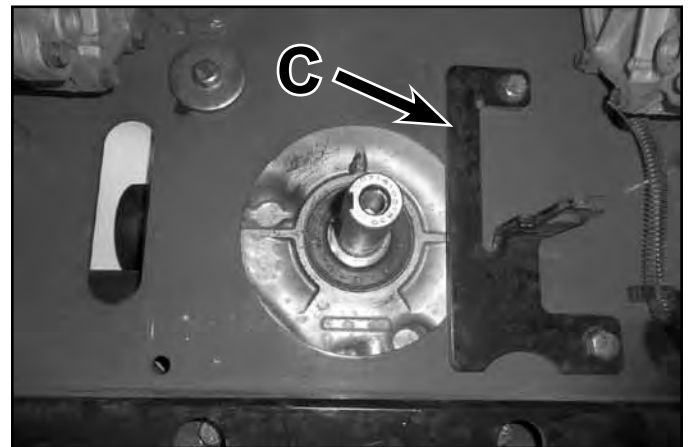

Fig. 053
11. Remove the (4) engine to frame mounting bolts. Make note of clutch stop bracket (C) mounting and orientation (Fig. 053).